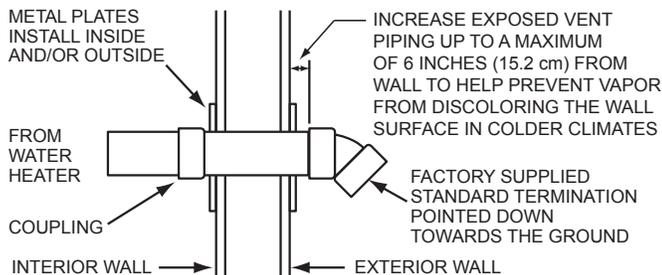

Figure 26. Side-Wall Termination Installation
See **Figure 26** (page 28).
11. Working from outside, slide the pipe and termination(s) assembled in the above steps through the wall. Ensure the termination(s) is pointed down towards the ground. See **Figure 26**.
15. Install a coupling to the end of the pipe(s) inside the building. Before the silicone caulking has time to completely set go outside the building and ensure the termination(s) is still pointing down towards the ground. See **Figure 26**.